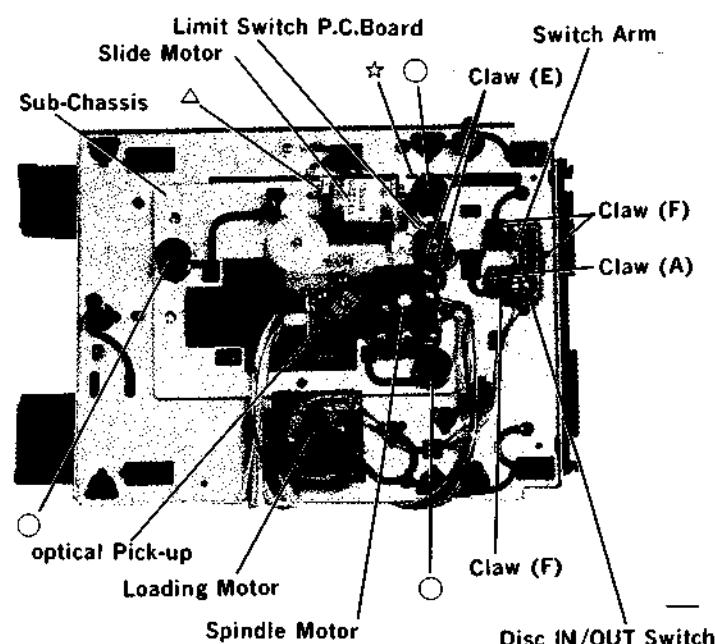

Figure 15 <15図>
- (2) After disengaging one claw (A), remove the switch arm as shown in Figure 15.
- (1) After removing three screws marked "○", remove the sub-chassis as shown in Figure 15.
- (1) Remove one screw marked “△” and lift up the motor as shown in Figure 15.
- (1) Remove two claws marked “E” as shown in Figure 15.
- (1) Remove three claws marked “F” as shown in Figure 15.